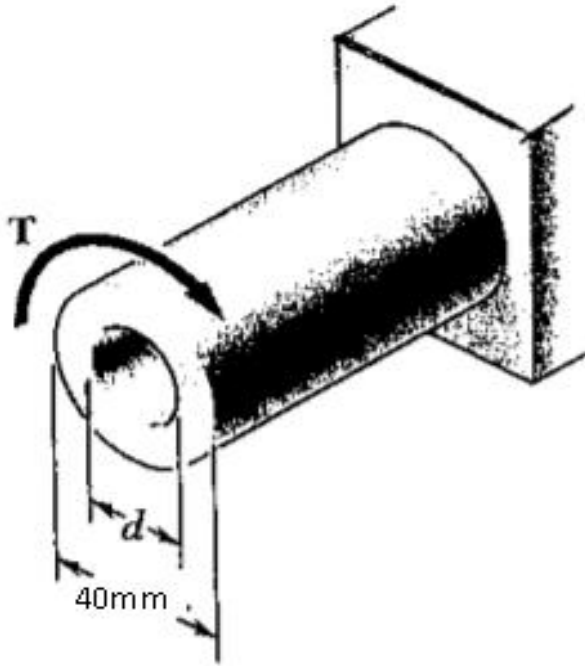

Figure 4.1
- b. Given that the internal diameter of a hollow shaft shown in Figure 4.1 is $d = 40\text{mm}$,
- Given that $d = 25\text{mm}$, determine the torque T which causes the maximum shear stress of 21 KN in the hollow shaft shown in Figure 4.1. [5 marks]